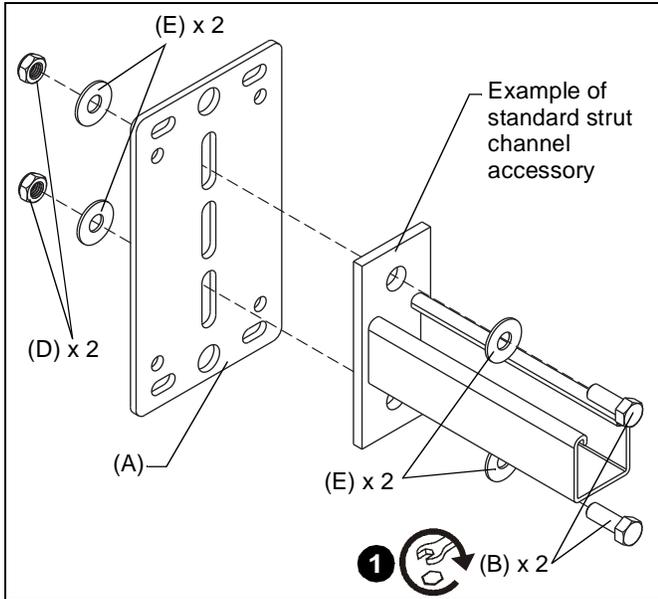

Figure 1
1. Attach standard metal strut channel accessory to the mount back plate (A) using two 3/8 x 1" hex head screws (B), four 3/8" flat washers (E) and two 3/8" lock nuts (D). (See Figure 1)